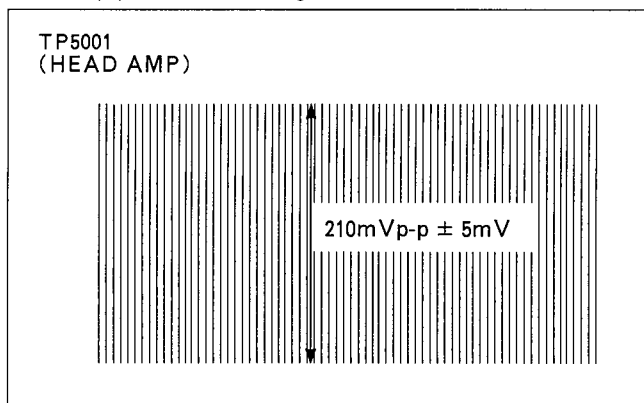

Figure E55
3. Adjust VR41007 so that the level becomes 210mVp-p  $\pm$  5mVp-p as shown in Figure E55.